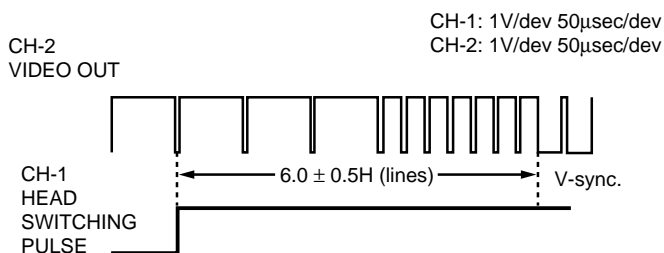

Figure 5-2.
5. Watch the oscilloscope screen and make sure that the leading edge of the head switching pulse is $6.0H$ (lines) ahead of the vertical sync as shown in Figure 5-2.